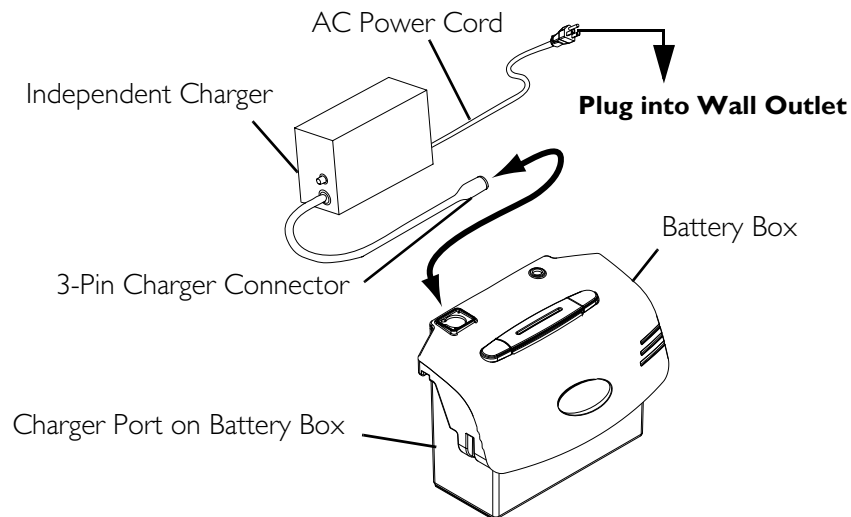

FIGURE 8.9 Charging Using an Independent Charger - Charger Plugged Directly to Batteries - At'm QT Only
NOTE: For this procedure, refer to FIGURE 8.9.
3. Plug the charger connector into the charger port located on the battery box (FIGURE 8.9).